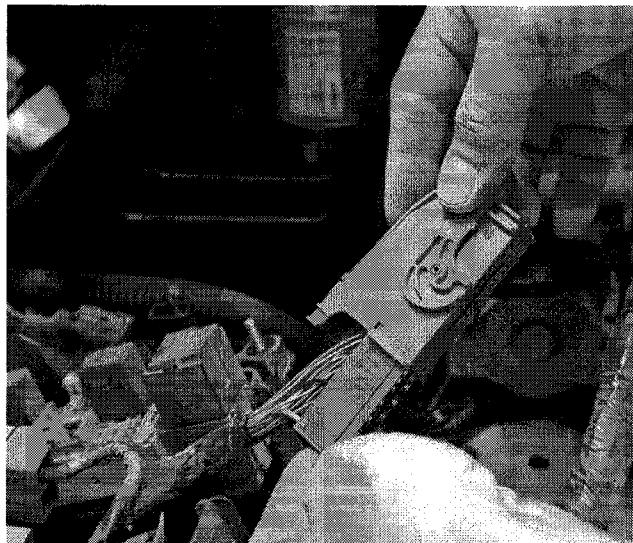

Fig. 3 PDC Connector C1 Dissassembly
5. Cut the zip strap located at the base of the C1 and remove the connector cover (See Figure 3).